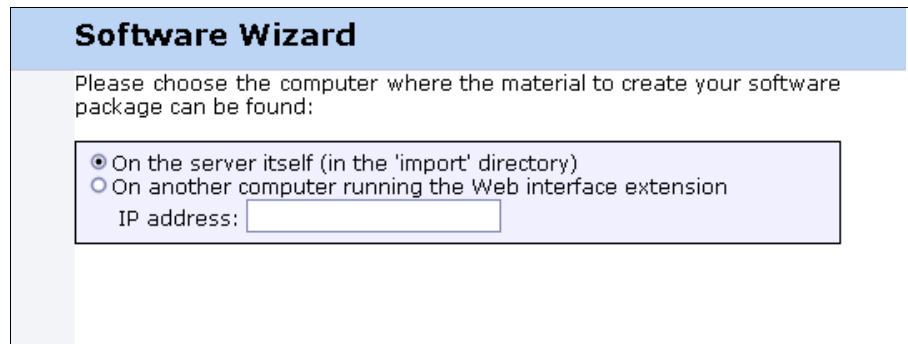

Figure 2-29 Select the local server import directory to get the driver files
- Next, select to look in the server's import directory for the driver location as shown in Figure 2-29 on page 39.